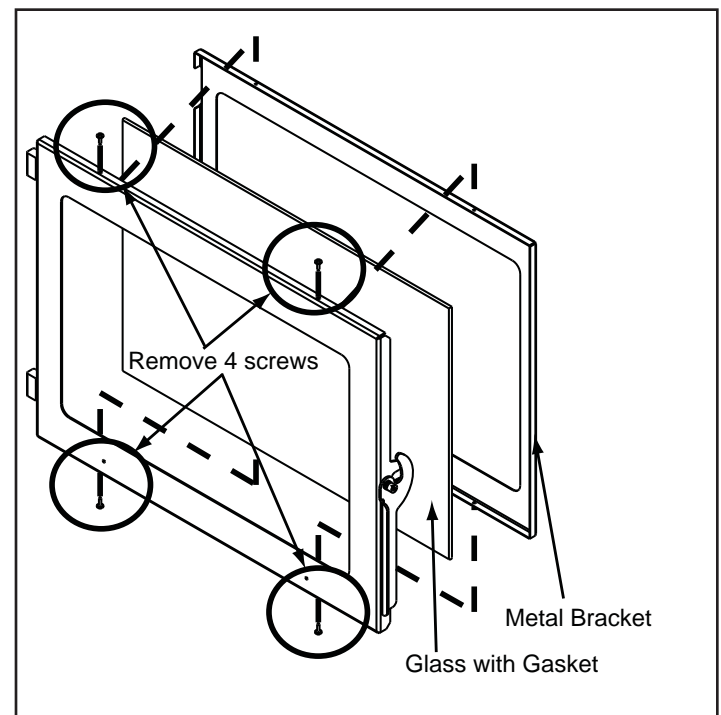

Figure 29.2
- Using a Phillips head screw driver, remove 4 screws, 2 on the top and 2 on the bottom. Remove metal bracket and then remove the glass. **Figure 29.2.**